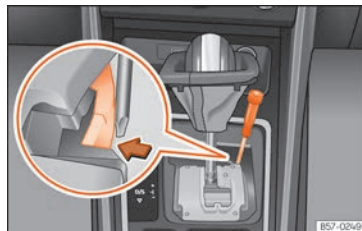

Fig. 57 Selector lever: manual release from position P.
- Using a screwdriver, press and hold the yellow unlocking tab sideways »» Fig. 57.
- Now press the interlock button on the selector lever (A) and move the selector lever to position N.